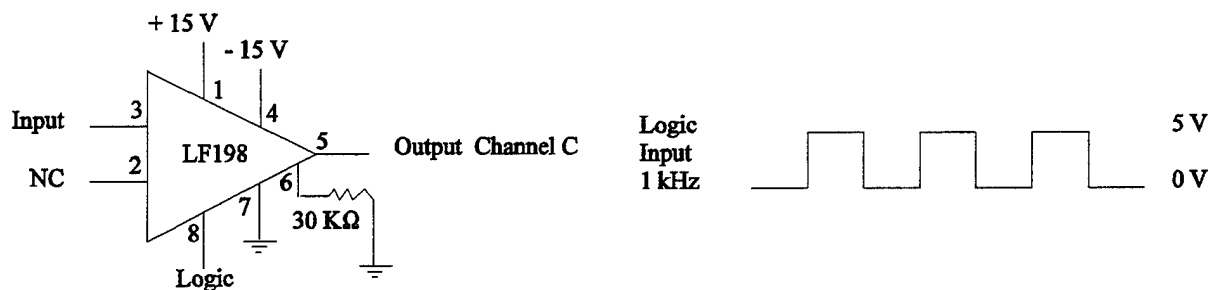

Figure 1
a) Construct the circuit of Figure 1. You will need to connect a ground bus, a + 15 volt bus and a - 15 volt bus on your bread board from the power supply. The ± 15 volt busses will provide power to your chips. When the circuit is fully connected, measure the ± 15 volts on the DMM **before** connecting them to the breadboard. Turn the power supply off. Connect your ground and power. Turn the supply back on.